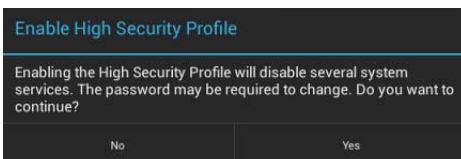

FIG. 80 Enable High Security Profile dialog
2. The panel will alert you to the fact that enabling the High Security profile will disable several system services, and that the password may need to be changed. Press **Yes** to proceed (FIG. 80): .